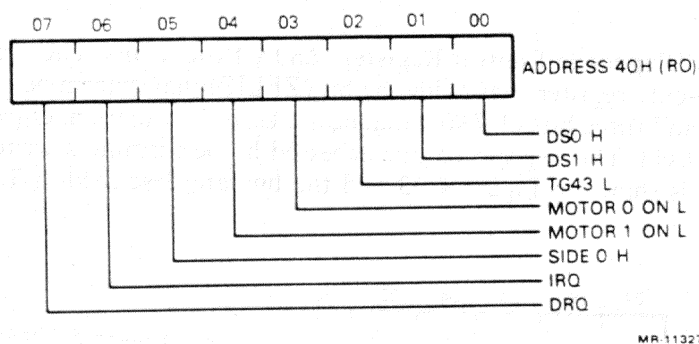

Figure 4-34 Diskette Drive Status Register (Z80A) Format
4.4.10.3 Diskette Drive Status Register: Z80A Processor – The diskette drive status register is an 8-bit read-only register that holds the status of diskette drive lines coming from the RX50 controller module and going to the diskette drives. Three of the diskette drive status signals come from the FDC chip, and the remaining five come from the diskette drive control register. The diskette drive status register is located on the RX50 controller module and can be accessed by a read to address 40H. The register bit format is shown in Figure 4-34 and the bits are described in Table 4-20.